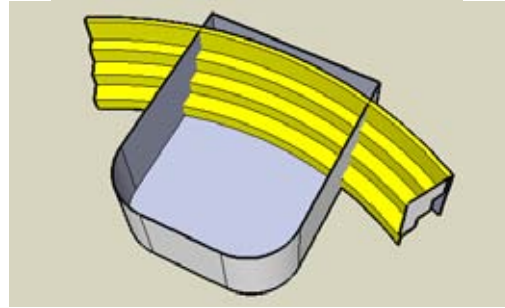

Figure 4-66
- Using all three segments of the arc as the Follow Me path, and the step section as the Follow Me face, create the steps (Figure 4-66).